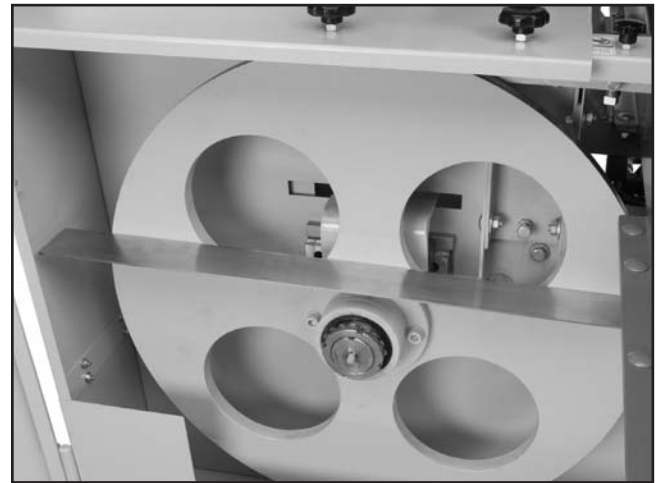

Figure 55. Correct alignment.
- If the straightedge lies flat across the surface of both wheels as shown in **Figure 55**, skip to **step 11**.